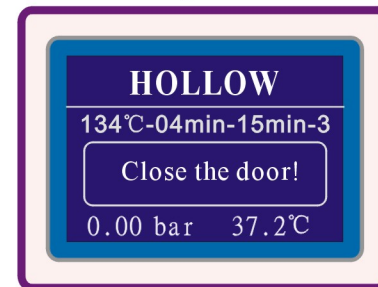

Fig.6.1-5
6.1.6 when the door is closed,you turn on power,LCD show “ open the door!” . (Fig.6.1-4).Now,you open the door,then you close the door,it is ok.when the door is opened,you turn on power,LCD show “close the door!” .(Fig.6.1-5). Now,you close the door,it is ok.